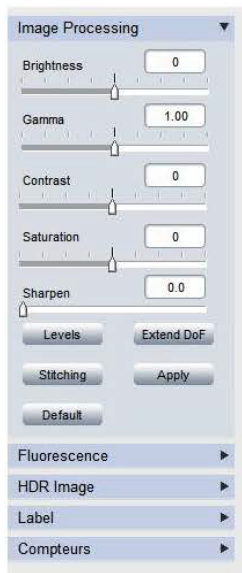

Fig.4-4. Imaging processing
(6) Click on **Image** tab, get the image processing functions (Fig.4-4).
(7) Provide Focus stacking, HDR, Fluorescence Combination functions etc.